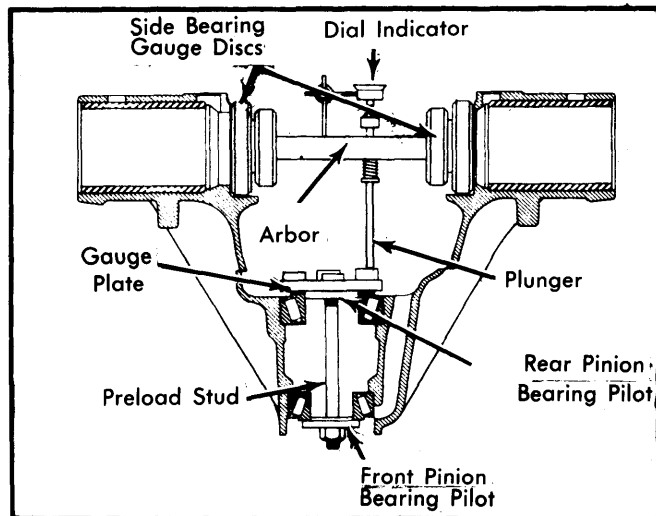

Fig. 5 Pinion Depth Gauge Set
**NOTE** — Checking procedure for different axle sizes is the same; however, tool component combinations vary between axles. See Fig. 5 and Tool Application Table for tool numbers and location of components used.